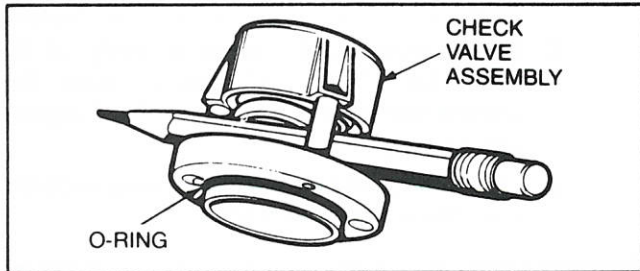

Figure 10. CLEANING 3/4" AND 1" CHECK VALVE
2. Insert flat-sided wooden pencil between seat and disc to hold valve open (see Fig. 10).